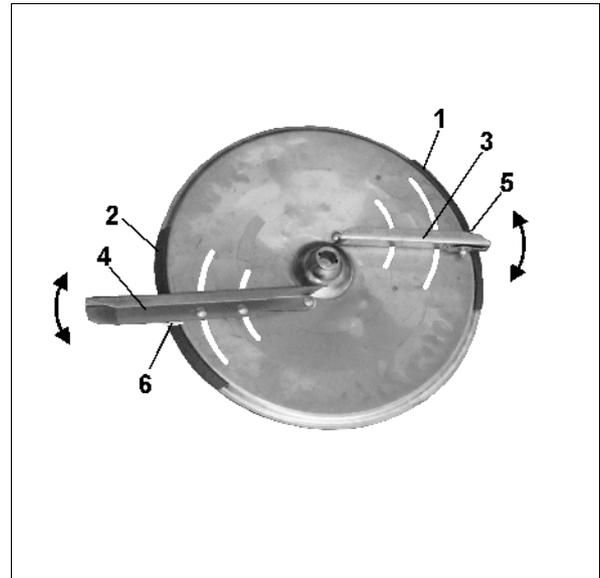

Fig. 29
For the accurate tool less setting of the individual spreading vane position two different unmistakable scales (Fig. 29/1 and Fig. 29/2) are arranged on every individual spreading disc.
The scale (Fig. 29/1) with the figure from 5 to 28 refers to the shorter spreading vane (Fig. 29/3) and the scale (Fig. 29/2) with the figures from 35 to 55 refers to the longer spreading vane (Fig. 29/4).
Swivelling the spreading vanes to a higher figure on the scale (Fig. 29/1 or Fig. 29/2) results in an increase of the working width.
- Look for the scale figure for the position of the short spreading vane on scale (Fig. 29/1) aufsuchen.
- Swivel the read off edge (Fig. 29/5) of the **short** vane (Fig. 29/3) on to the scale figure and **re-tighten the thumb nut firmly.**
- Look for the scale figure for the position of the **long** spreading vane on scale (Fig. 29/2) aufsuchen.
- Swivel the read off edge (Fig. 29/6) of the **long** vane (Fig. 29/4) on to the scale figure and **re-tighten the thumb nut firmly.**